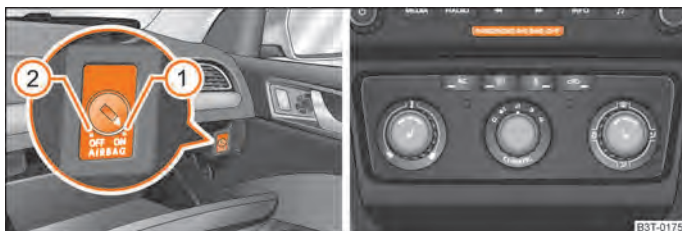

Fig. 152 Storage compartment: Switch for the front passenger airbag/indicator light for a switched off front seat passenger airbag
- switching off airbags is indicated in the middle of the dash panel by the lighting up of the indicator light **OFF** in the display **PASSENGER AIR BAG OFF** → fig. 152.
- Turn the slot of the airbag switch using the key in the position ② (OFF) → fig. 152 - left.
- Check whether the airbag indicator light in the display **OFF PASSENGER AIR BAG OFF** in the middle of the dash panel lights up when the ignition is switched on → fig. 152 - right.
- Turn the slot of the airbag switch using the key in the position ① (ON) → fig. 152 - left.
- Check whether the airbag indicator light **OFF** in the display **PASSENGER AIR BAG OFF** in the middle of the dash panel does not light up when the ignition is switched on → fig. 152 - right.
The airbag indicator light is located in the middle of the dash panel → fig. 152 - right.